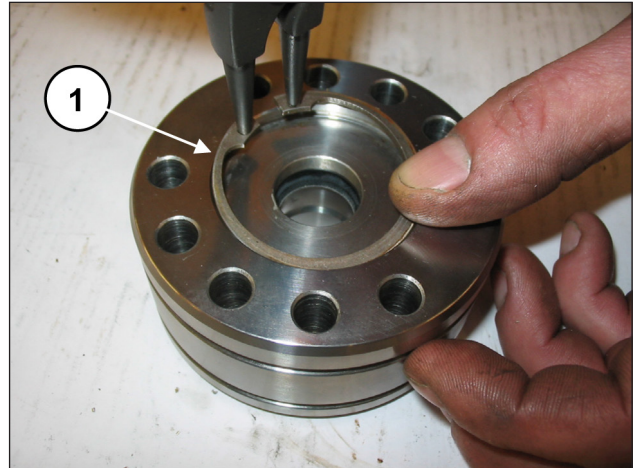
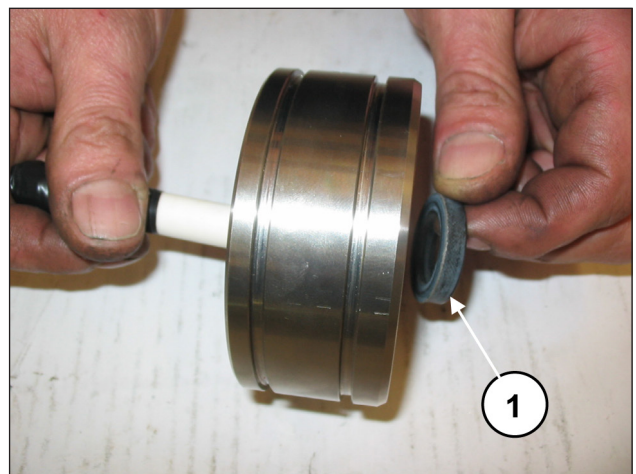

Fig. 126
Fig. 127
Remove the Seeger ring and the seal ring (pos. ①, Fig. 126) and with a special plastic pin, remove the LP (low pressure) ring seal (pos. ①, Fig. 127).